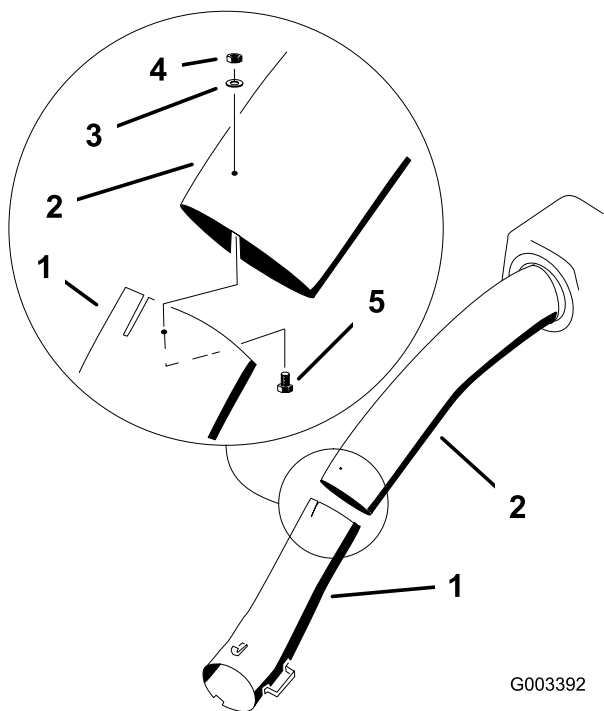

Figure 37
- Join the upper and lower tubes with 3 bolts (#10 x 3/4 inch), flat washers, and locknuts as shown in Figure 37.